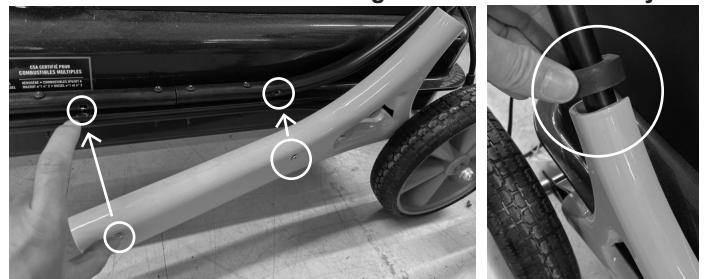

Figure 2 "Y" Frame Assembly
9. Attach "Y" frame to both sides of heater by aligning 2 holes with holes on front and rear handles and tighten 2 screws. Slide the "Y" cover clip up the handle to cap the end, see Figure 2.